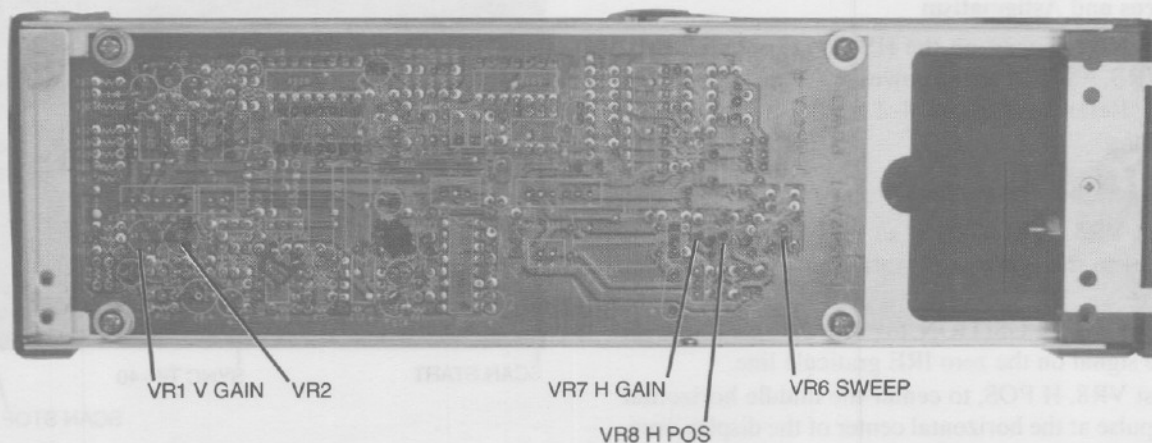

Figure 4-4. V/H amplifier PC board T3542
3. Refer to Figure 4-4. Turn VR6, SWEEP, fully CCW. Then turn VR6 clockwise slowly and note the setting at which the displayed trace becomes stable. Continue turning VR6 CW until an unstable trace resumes. Reset VR6 midway between the points where trace stability is noted.
3. Adjust VR8, H POS, to center the middle horizontal sync pulse at the horizontal center of the display area. See Figure 4-4.